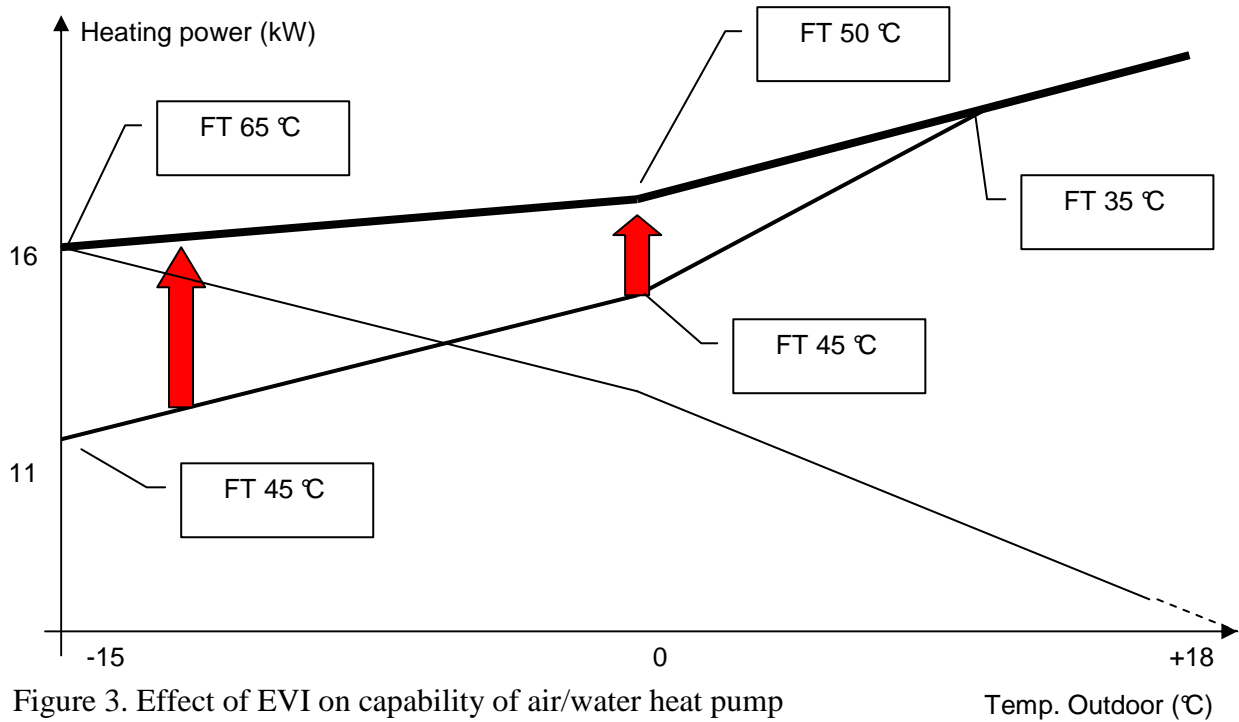
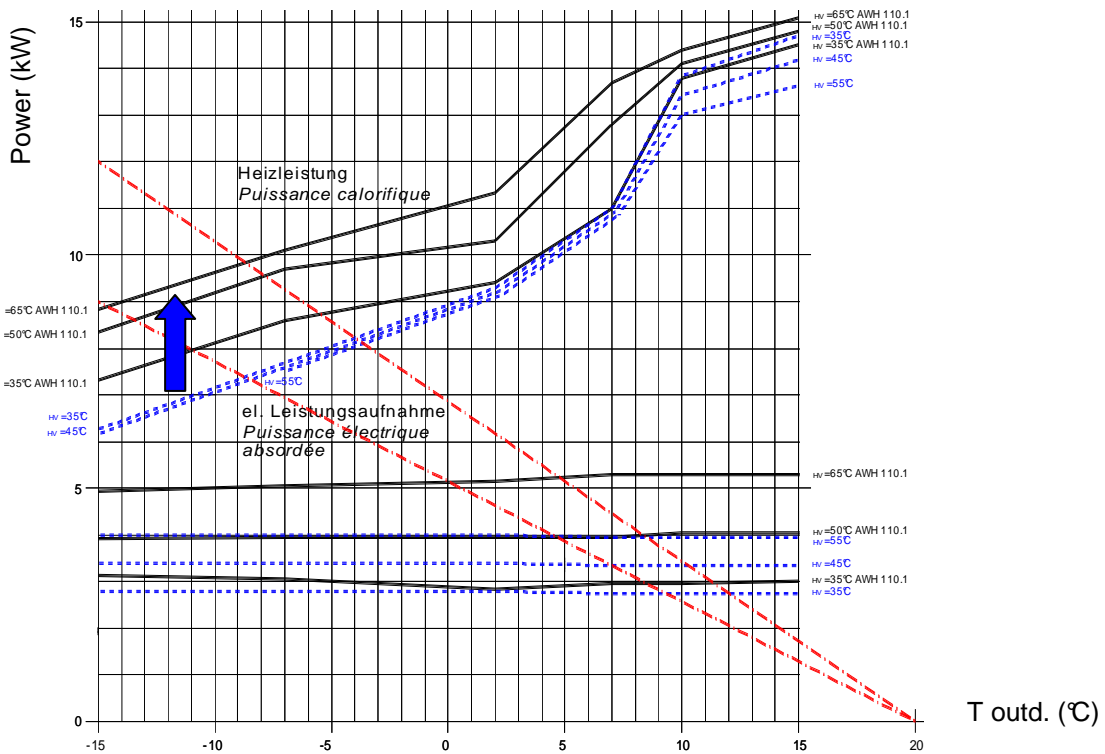

Figure 3. Effect of EVI on capability of air/water heat pump (FT=flow temperature)
Figure 4. Power-feature of a classic (blue, dashed) and EVI-version (black line) of an air water heat pump AW 110 versus AWH 110
The power-characteristic of a classic air/water heat pump has the feature to generate less power with increasing frostiness. That's why the heat pump, chosen at the dimensioning temperature - 12 °C is normally over-dimensioned for the early and post-season. In figure 3. is the new, nearby constant power-characteristic of an air/water heat pump with EVI visible. Beside the higher power is significant, that the classic version can produce at - 15 °C outdoor temperature a flow temperature of max. + 45 °C, meanwhile the EVI-version produces at - 15 °C a flow temperature of max. + 65 °C, see figure 4. With this difference the EVI-cycle gives an impression of its capability.
- The power of the heat pump must not be those of the standard point (e.g. + 2/+ 35 °C according to EN 255 / 14511) but of the point of application, for example - 10/ + 65 °C. Looking at figure 4, it makes a difference of 0.4 kW.